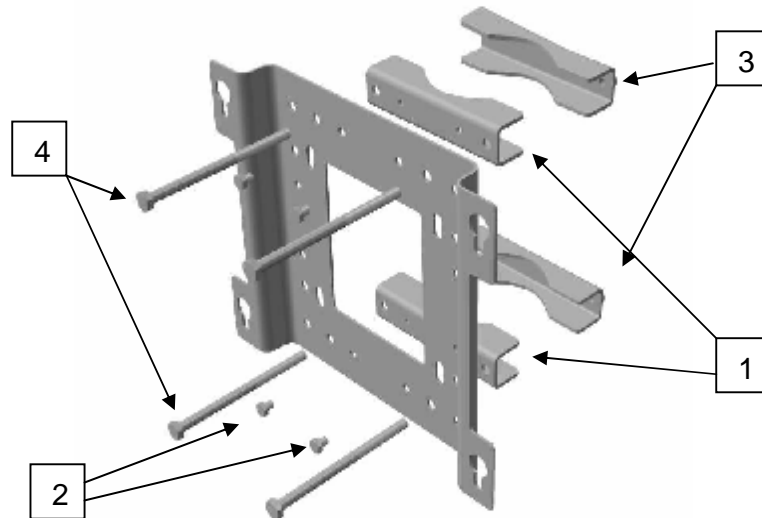
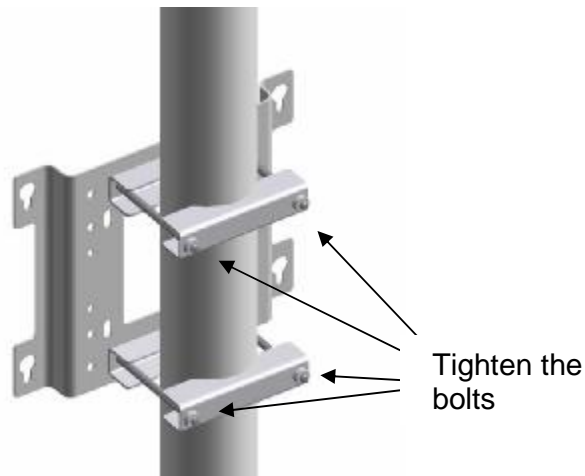

Figure 10: Fix the inner clamps to the mounting plate by using the four small screws.
Figure 11: Fixing the mounting plate on a pole.
Step 2: Join the inner clamp halves (1) and the mounting plate, using the four M8 × 12 mm bolts (2). Tightening torque, 21 Nm. See figure 10.
Step 3: Then mount the outer clamps (3) loosely, each with one of the long bolts (4) (M 10 × 200 mm or M 10 x 140 mm). Check that there is enough space for the pole. See figure 10.
Step 4: Finally check that the two remaining long bolts (4) are accessible.
Position the clamps around the pole and insert the two remaining long bolts (M10 × 200 mm or M10 x 140 mm). Position (4) on figure 10. Tighten all four bolts, taking care to keep the two halves of each clamp parallel. See figure 11.